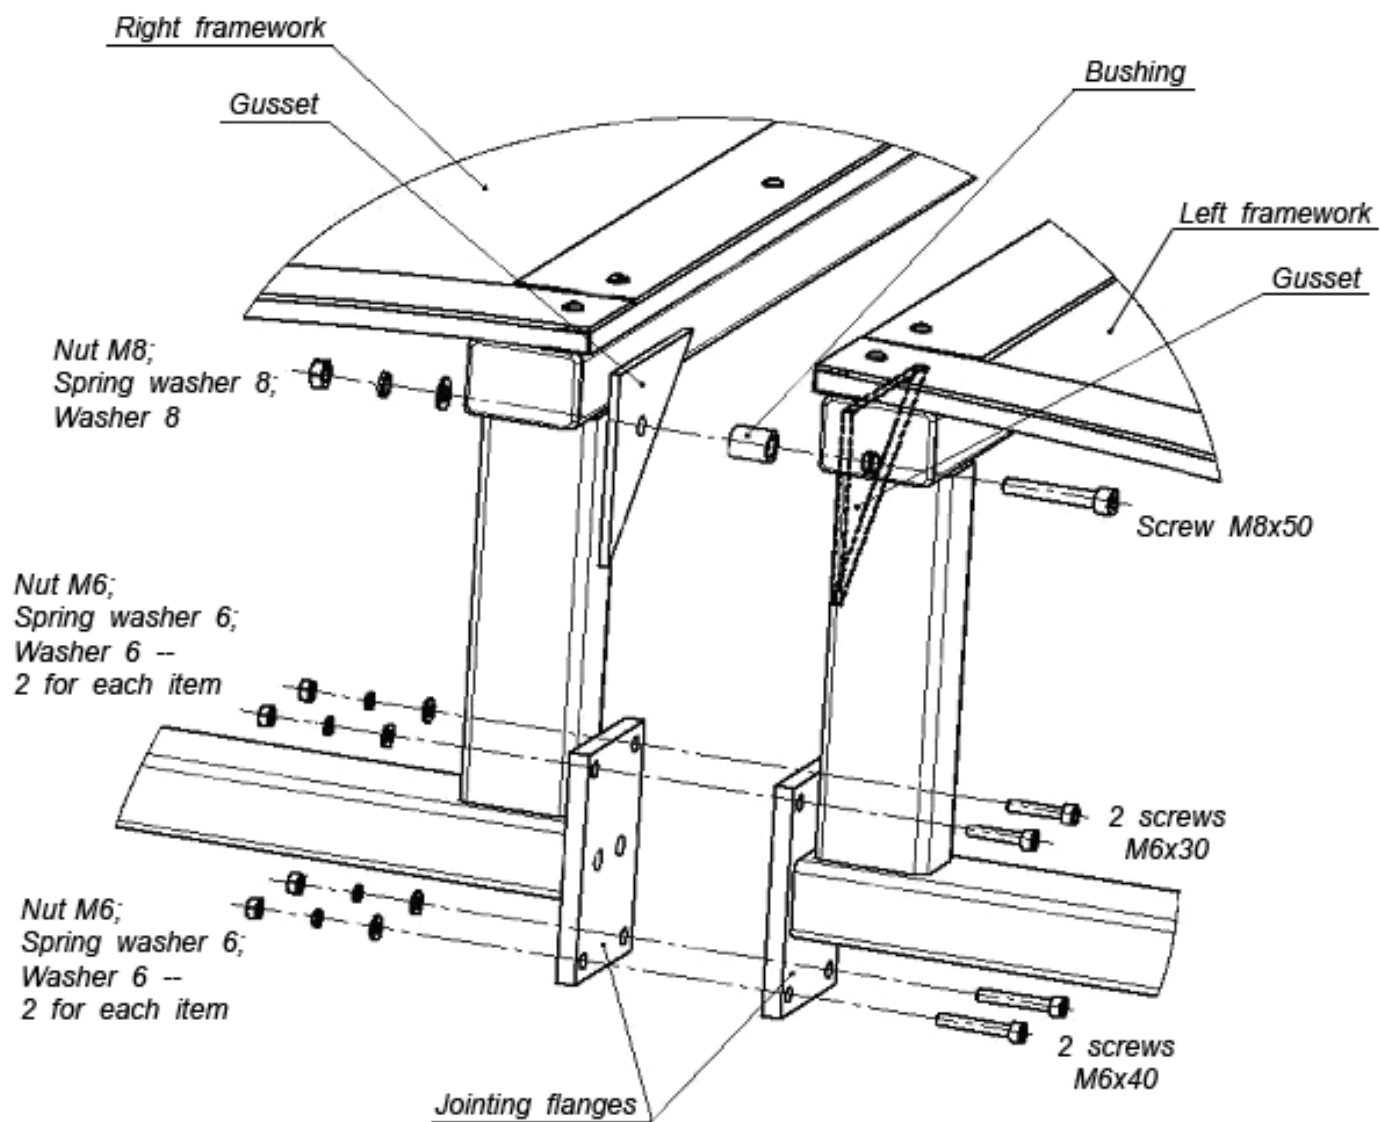
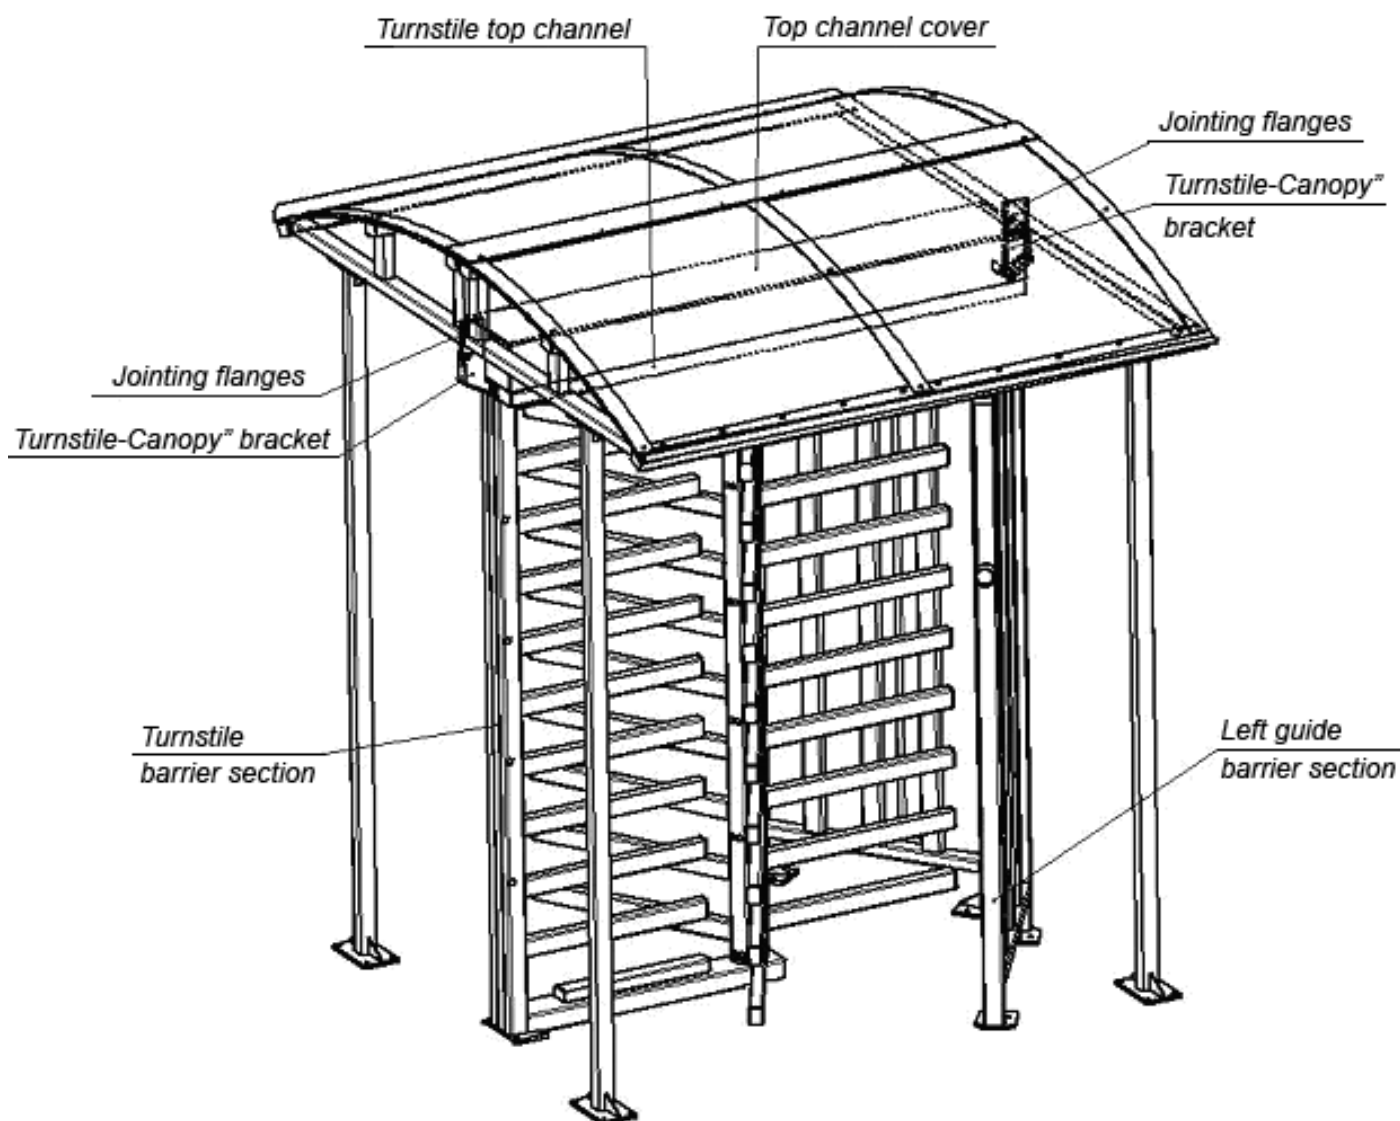

Fig. 4. Juncture of the roof sections (1) and (2)
Fig. 7. Positioning of the «Turnstile-Canopy» brackets between the canopy jointing flanges (6) and the turnstile top channel
* The bushing and gussets are also shown in Fig. 4.
8.2.7 Put the screw M8x45 through the hole in the left roof section gusset from inside, take the bushing on the screw. Put the screw inside the hole in the right roof section gusset (Fig. 4). Fix the screw by the nut M8 with two washers from inside the right roof section. Fix the other side gussets together. Do not tighten the screws.
8.2.8 Tie the jointing flanges together by fittings shown in Fig. 4. Do not tighten the screws.
- when the canopy is used together with a standalone turnstile without railings, fix it to the turnstile top channel by two «Turnstile-Canopy» brackets mounted on both ends of the top channel (Fig. 7 and sect. 8.2.15);
- unscrew two bottom screws M6x40 with nuts and washers (Fig. 4) from the canopy jointing flanges on the side of the turnstile barrier section (Fig.7);
8.2.16 In the same way, mount the «Turnstile-Canopy» bracket from the side of the turnstile guide barrier set (Fig. 7).
* Use bottom holes of the bracket and the jointing flanges with corresponding fasteners (two screws M6x40 with nuts and washers, Fig. 4).